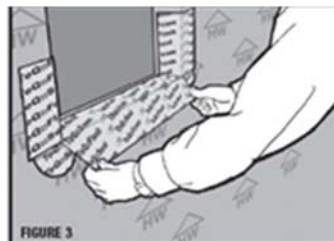

Figure 3
2.2.1 Pre-cut a length of 6" Butyl Flash 12" longer than the sill rough opening. Apply pre-cut flashing by removing the release backing and carefully starting 6" up and 3" in rough opening (or minimum depth of window frame) on one jamb side. Continue to apply the flashing across sill and up opposite side jamb. Once the flashing is attached to the sill and jambs, make a cut in each corner to allow the remaining unattached flashing to fold out and over the exterior sheathing (Figure 3).